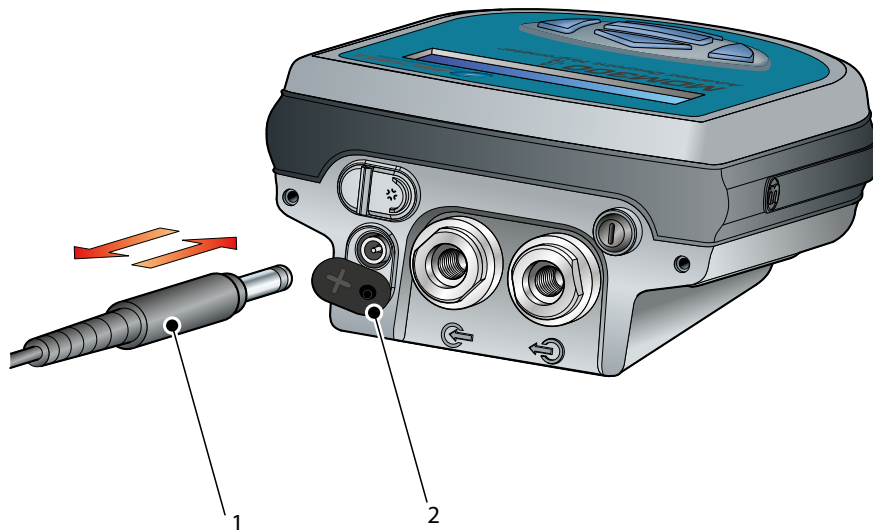

Figure 9 *Battery Charger Connection*
Loosen the securing screw and swing aside the sealing cover (2). Insert the battery charger connector (1) into the charger connector as shown in *Figure 9*.